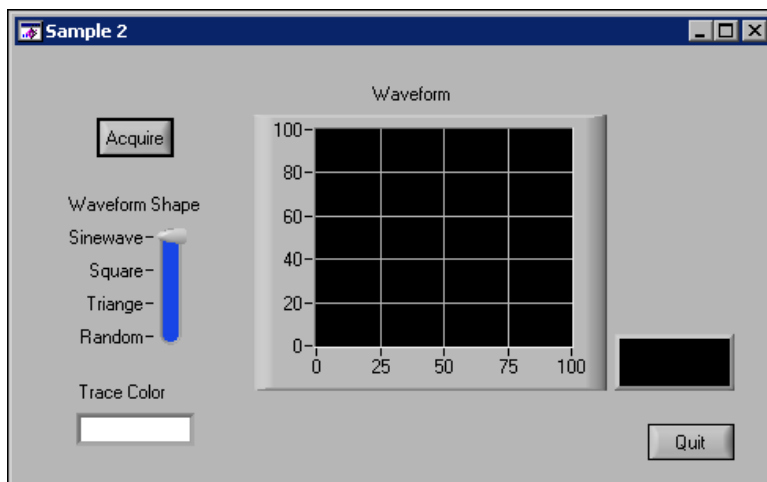

Figure 2-4. sample2.uir Panel When Running
2. Run the project by selecting **Run»Debug sample2_dbg.exe** or by pressing `<Shift-F5>`. The GUI shown in Figure 2-4 appears after the program compiles and runs.